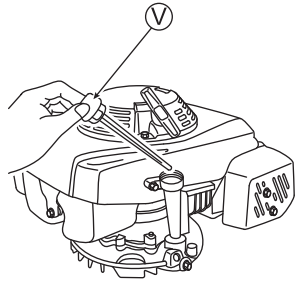

Fig. 8
- 1 Remove Oil tank cap (V), pull out the oil gauge, and then insert it not screwing it. (See Fig. 8)
- 2 Remove Oil tank cap (V), and confirm that the oil level is between the upper and lower limits of the oil gauge.
- 4 Firmly close Oil tank cap (V) after confirmation.